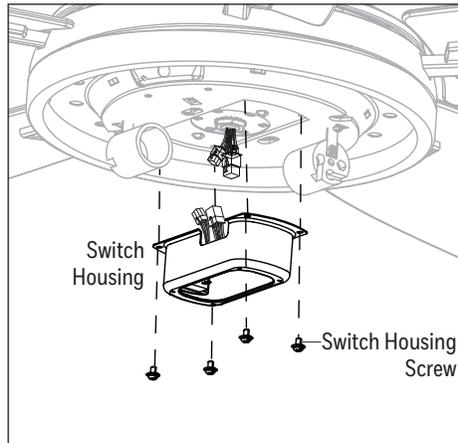

Figure 5.8
- Remove the four switch housing screws preassembled to the light kit. Secure the switch housing to the light kit by re-installing the switch housing screws. **Note:** The switch housing should be oriented so its notch covers the wiring from the light kit (Figure 5.8).